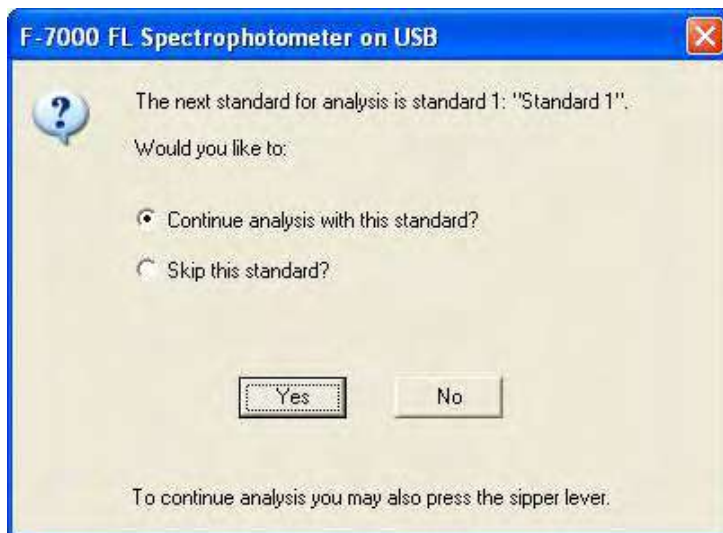

Fig. 4-25
- (2) Click the  (measurement) button to start measurement. When measurement starts, the window in Fig. 4-25 appears.
This standard sample is measured and advance to the next standard measurement is awaited. Since a window as shown in Fig. 4-25 appears, you should click **Yes**.